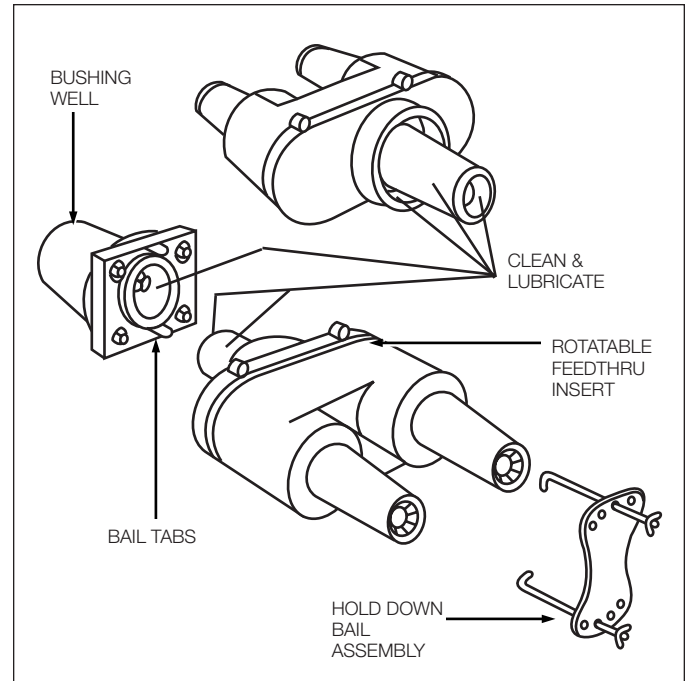

Figure 1. Rotatable Feedthru Insert installation into bushing well.
- Apply a thin even coating of grease to mating surfaces of the rotatable feedthru insert and the bushing well. (Refer to Figure 1.)